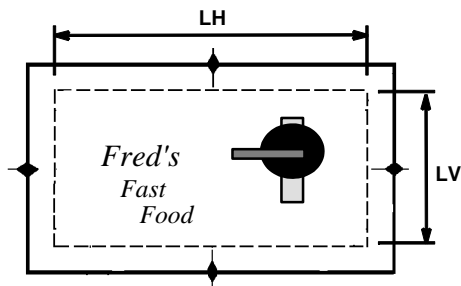

Figure 8. Chalking the Clamp Location Lines
- c. Strike a chalk line to connect the each of the horizontal and each of the vertical clamp location line marks as shown in Figure 8. Make sure the lines are the same as the LH and LV dimensions from Step E of the Worksheet.